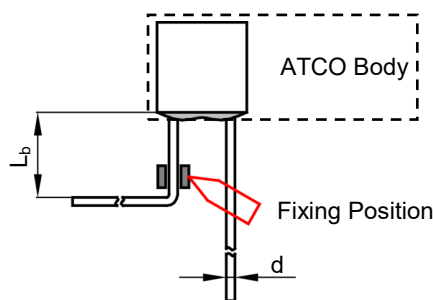

FIGURE XM-2
2. When bending leads, please use pincher or similar tools to fix the product as shown in Fig.XM-2, to avoid damaging the product.